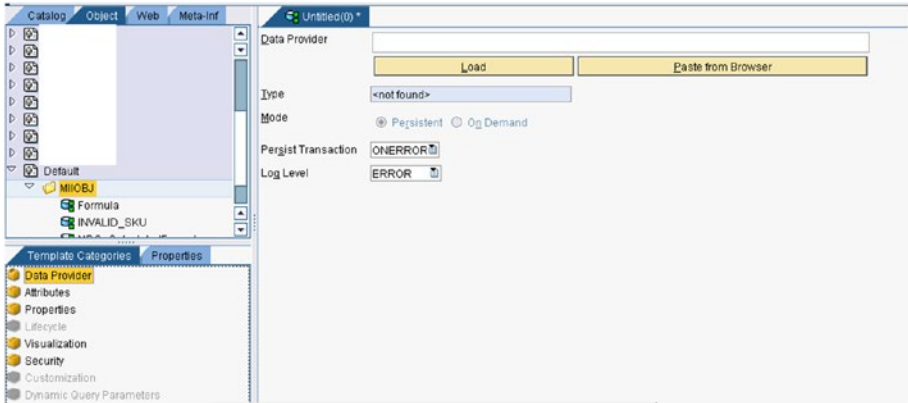

Figure 7-2. The MDO Data Provider Screen
5. The list of available screens for an MDO can be found at the bottom-left corner of the page under the Template Categories tab (see Figure 7-2). The available configurations are as follows: